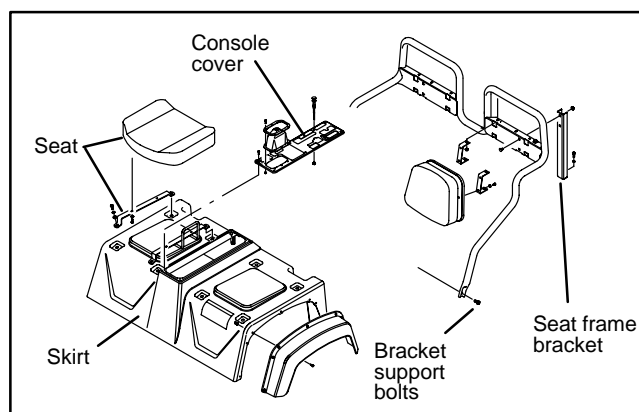

Figure 15
2. Remove knobs from transmission shifter and other control levers, then remove center console plate assembly. Remove seats and skirt assembly to get access to parking brake cables (Fig. 15):